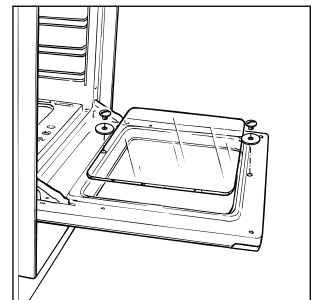

Figure 26 Oven door glass
- The inner glass door panel can easily be removed for cleaning by unscrewing the two fixing screws (Fig. 26).